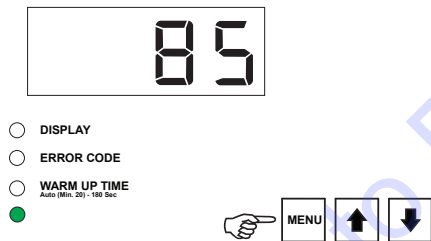

Figure 40. Pressure Adjustment
14. Press the **DOWN ARROW** (↓) button to cycle through the available pressure settings of **85, 95, 100** or **105** psi (Figure 40). Press **MENU** to select the desired pressure setting.